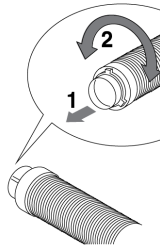

Fig. 7
3. Fit the hose in the housing at the back of the device (Fig. 7).